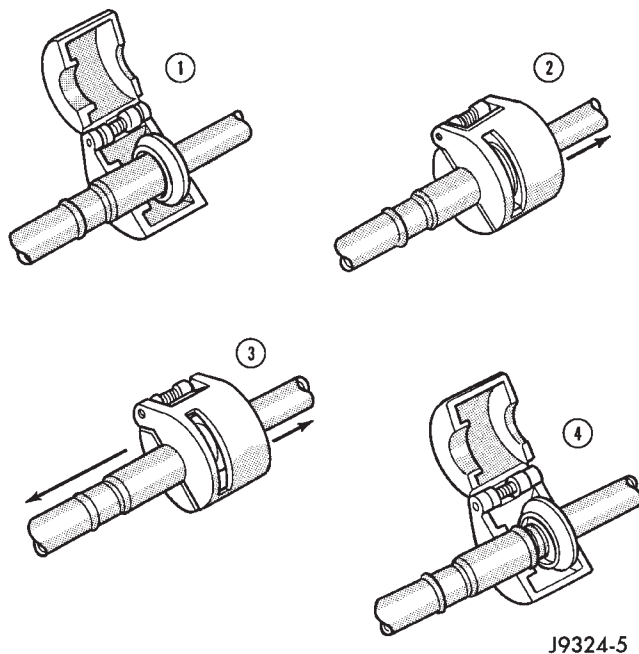

Fig. 6 Spring Lock Coupling Disconnect
- (1) Discharge the refrigerant from the system using a recovery/recycling device.
- (2) Fit the appropriate Spring Lock Coupling Tool from A/C Tool Kit 6125 (Fig. 6).